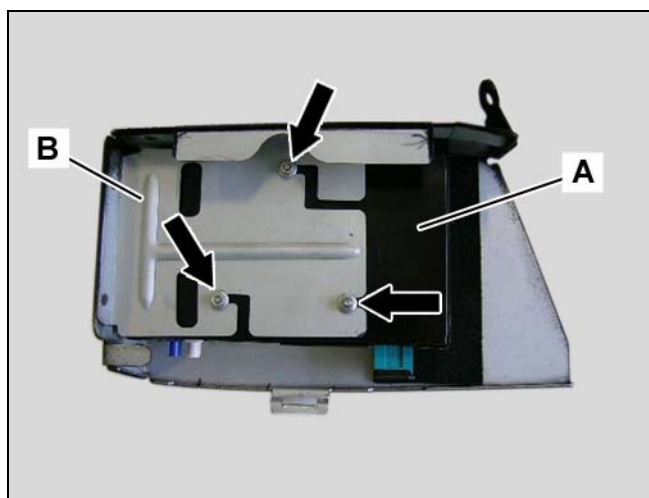

Figure 20
11. Mount the SDARS control module (A, Figure 20) to Part B of the SDARS bracket (B, Figure 20) with three M5 hex nuts (Arrows, Figure 20).